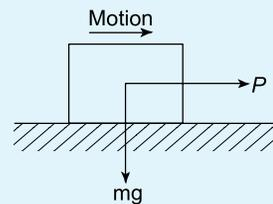

Figure 16.13
1. A mass of 40 kg rests on a flat horizontal surface as shown in Figure 16.13. If the coefficient of friction $\mu = 0.2$, determine the minimum value of a horizontal force P which will just cause it to move. [78.48 N]